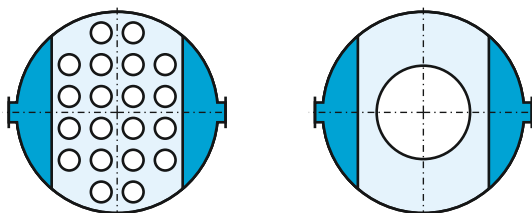

Fig. 5: Number and size of risers
**Number and size of risers:** For gas distribution, there will be many small risers spread over the total cross-sectional area. When there is no issue for gas distribution, few risers are realized (Fig. 5). The dimension of the riser has to take care about the size of the manhole.